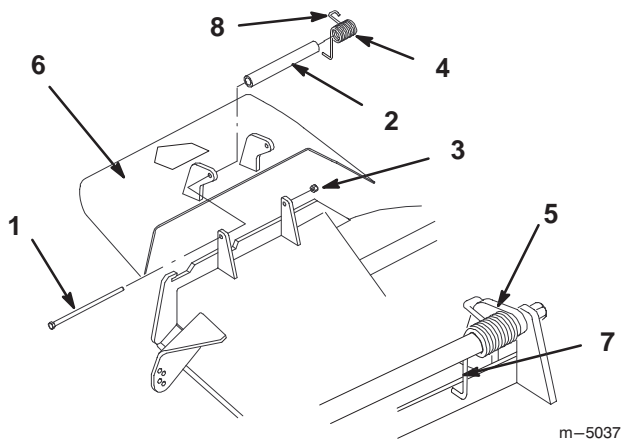

Figure 1
Note: Make sure the “L” end of spring is installed behind deck edge before installing the bolt as shown in figure 1.
3. Install bolt and nut. Place “J” hook end of spring around grass deflector (Fig. 1).